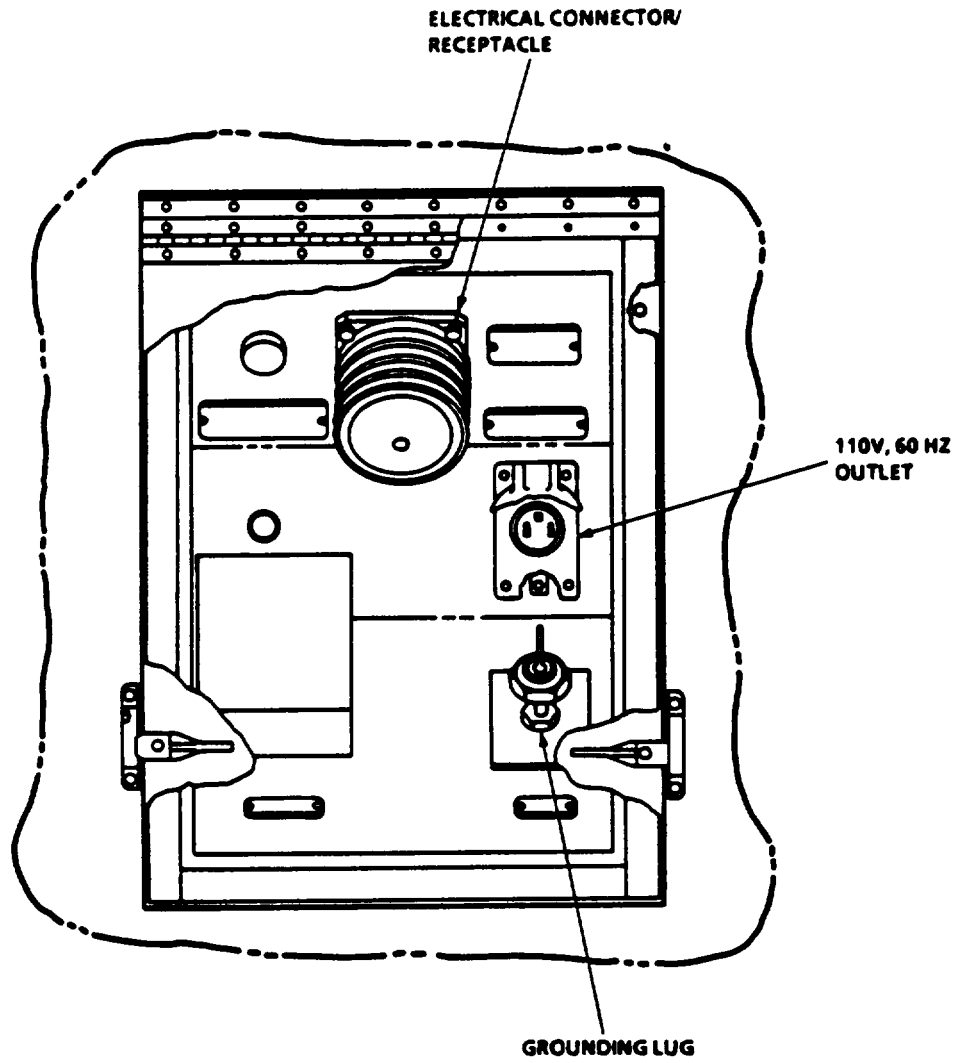

Figure 2-12. Laboratory Electrical Connector Receptacle
- (5) Remove driver/puller rod and driver/puller from first grounding rod section.
- (6) Attach second section of grounding rod to first section and attach driver/puller rod to second section and drive into ground.
- (7) Repeat steps (5 and 6) and drive third section of grounding rod into ground until only 12 in. (30.5 cm) of rod is above ground.
- (8) Remove driver/puller and driver/puller rod from third section of grounding rod.
- (9) Place driver/puller and driver/puller rod in overpack box.
- (10) Slide grounding cable clamp over grounding rod.
- (11) Attach grounding cable to grounding rod with grounding clamp.
- (12) Attach grounding cable to grounding lug in laboratory electrical connector receptacle (refer to Figure 2-12.)
- (3) Attach main power cable leads to the generator set as follows: Black wire - (L1); Blue wire - (L2); Red wire - (L3); White wire - Neutral (LO); Green wire - Generator Set Ground (Gnd).
- (4) Remove protective cap from main power cable connector (Figure 2-12) in laboratory electrical connector receptacle.
- (5) Firmly connect the main input cable to the cable connector.